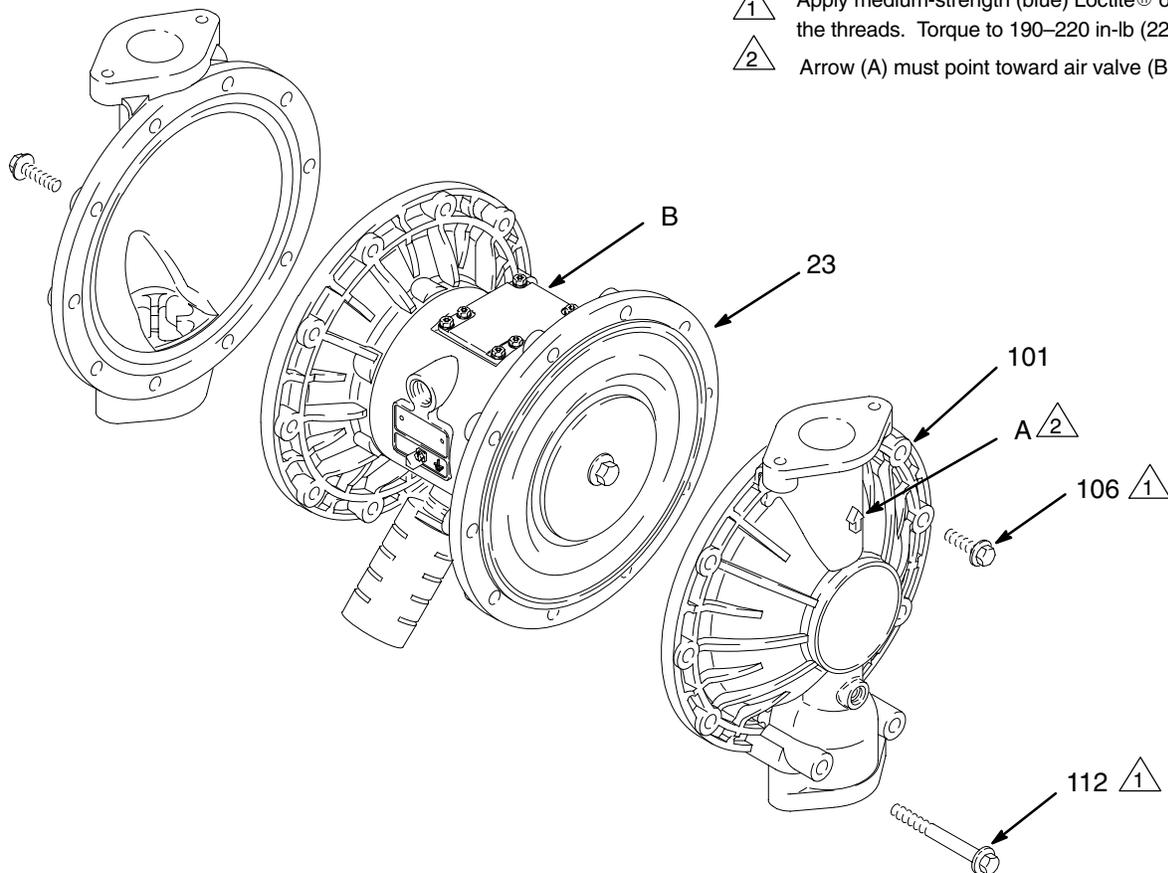

Fig. 11
3. Using a 13 mm socket wrench, remove the screws (106 and 112) holding the fluid covers (101) to the air covers (23). Pull the fluid covers (101) off the pump. See Fig. 11.
2. Install the diaphragm assembly on one end of the shaft (24) as follows:
- a. Install the o-ring (108\*) on the shaft bolt (107).
- b. Install the fluid side diaphragm plate (105) on the bolt so the rounded side faces in, toward the diaphragm (401).
6. Align the fluid covers (101) and the center housing (1) so the arrows (A) on the covers face the same direction as the air valve (B). Apply medium-strength (blue) Loctite® or equivalent to the threads of screws (106) and (112), and secure the covers with the screws handtight. Install the longer screws (112) in the bottom holes of the covers. See Fig. 11. Using a 13 mm socket wrench, torque the screws oppositely and evenly to 190–220 in-lb (22–25 N.m).